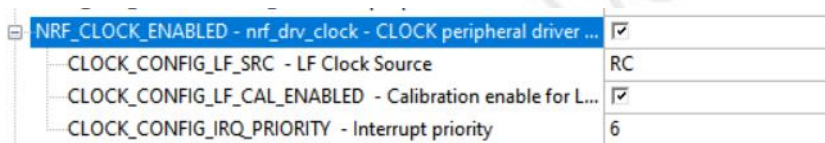

Figure 5.2: NRF_CLOCK_ENABLED
- unfold"nRF_Drivers"->"NRF_CLOCK_ENABLED"Please modify as shown in Figure 5.2: